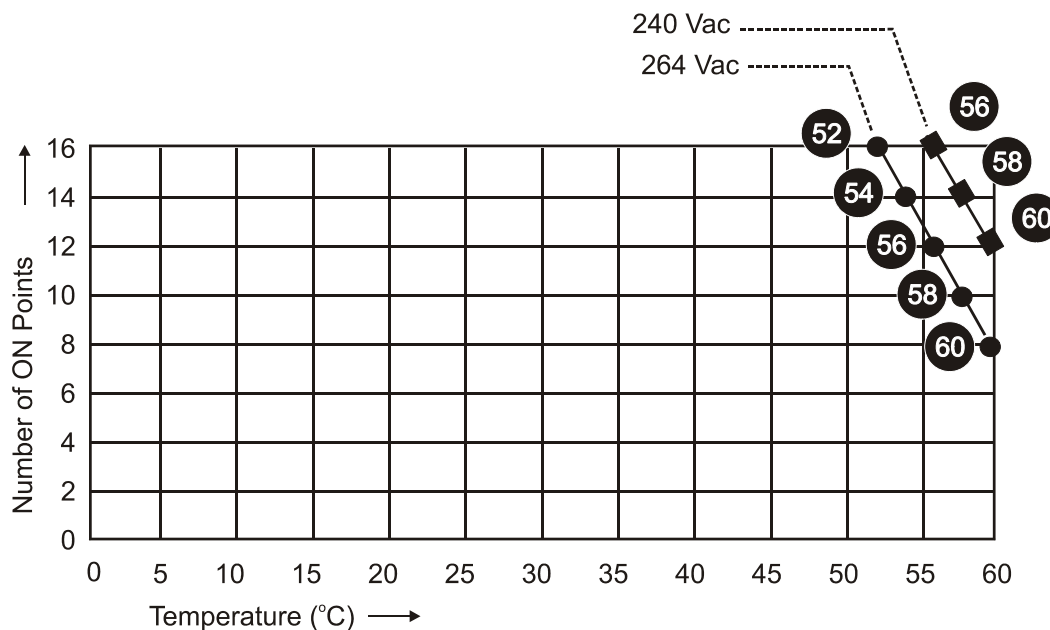

Figure 29 – AC Input Module de-Rating
2. For 240 Vac applications and temperatures above 56°C, or 264Vac, 52°C, de-rate the number of ON inputs per AC input module. (See AC Input de-rating data, see Figure 29.)